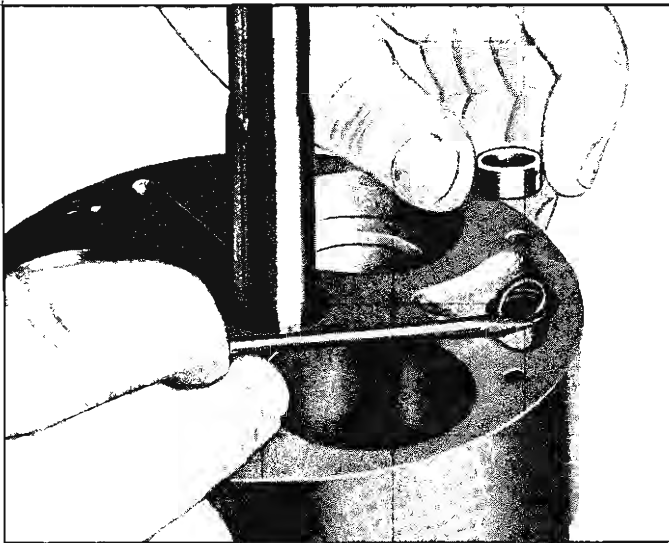

Fig. 37—Installing Discharge Crossover Tube Front "O" Ring and Spacer
3. Install the discharge crossover tube front "O" ring and spacer (fig. 37).